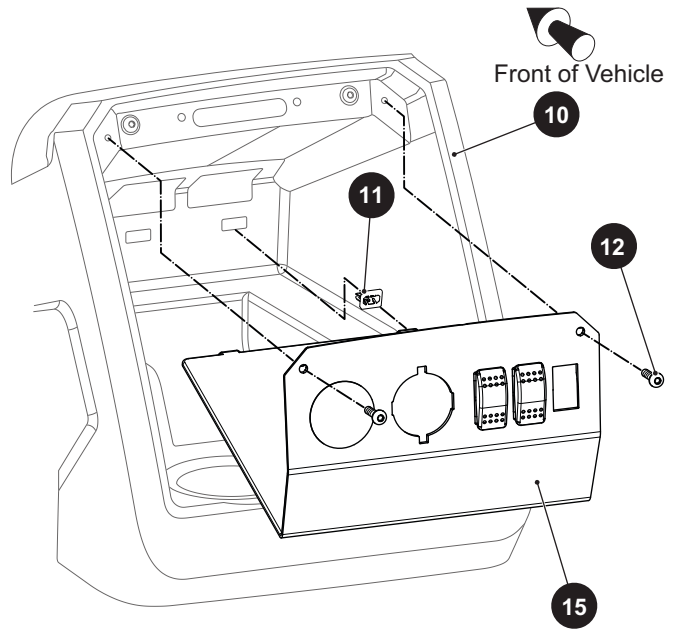

Figure 3 Gauge Panel
1. Remove the two screws (12) that secure the gauge panel (15) to the instrument panel (10).
4. Pull the bottom of the gauge panel away from and out of the instrument panel (Ref. Figure 3).